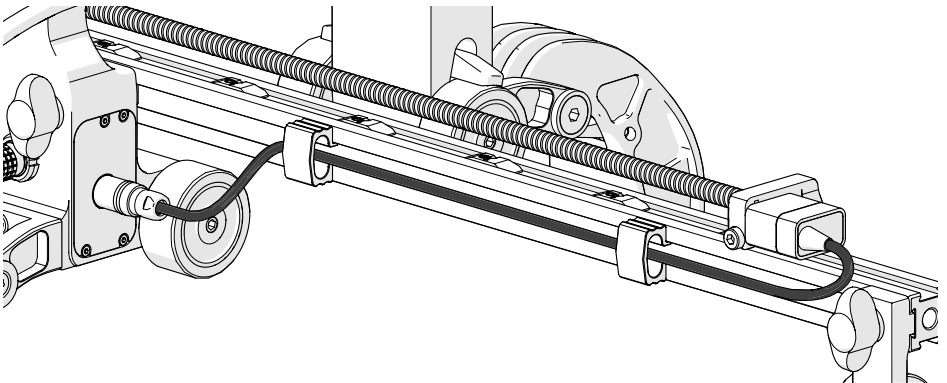

Fig. 67 - Connect index encoder to index encoder connection
4. Route the cable along the frame bar using the cable clips. Plug the encoder end into the index encoder connection on the side of the corrosion link (Fig. 67).